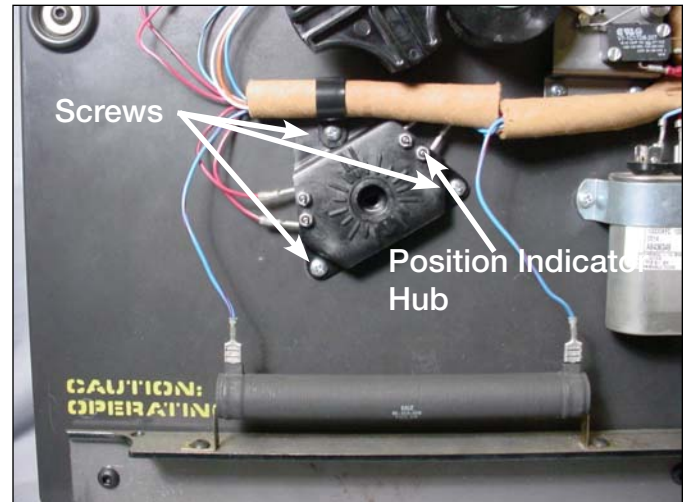

Figure 10.
- Use a Phillips head screwdriver to loosen and remove the three mounting screws fastening the position indicator micro switch hub to the front of the tap changer assembly. See Figure 10.